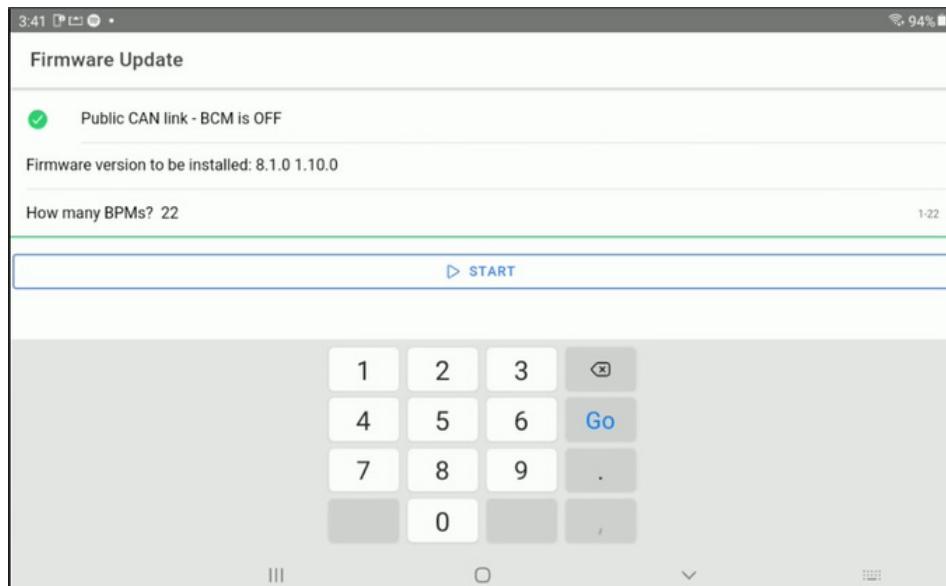

Fig. 5-20, XRT-Li Utility App - BPM Count and Start Button
4. Enter the count of BPMs for this BCM and sign off on this work order (Fig. 5-20).